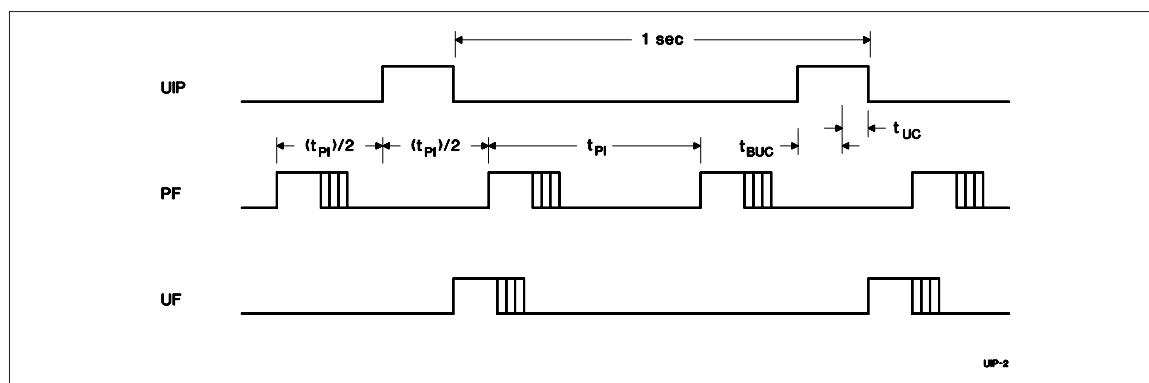

Figure 3. Update-Ended/Periodic Interrupt Relationship
- Enable the update interrupt event to generate interrupt requests at the end of the update cycle. The interrupt handler has a maximum of 999ms to access the clock bytes before the next update cycle begins (see Figure 3).
- Poll the update-in-progress bit (UIP) in register A. If UIP = 0, the polling routine has a minimum of t_{BUC} time to access the clock bytes (see Figure 3).
- Use the periodic interrupt event to generate interrupt requests every t_{PI} time, such that UIP = 1 always occurs between the periodic interrupts. The interrupt handler will have a minimum of $t_{PI}/2 + t_{BUC}$ time to access the clock bytes (see Figure 3).